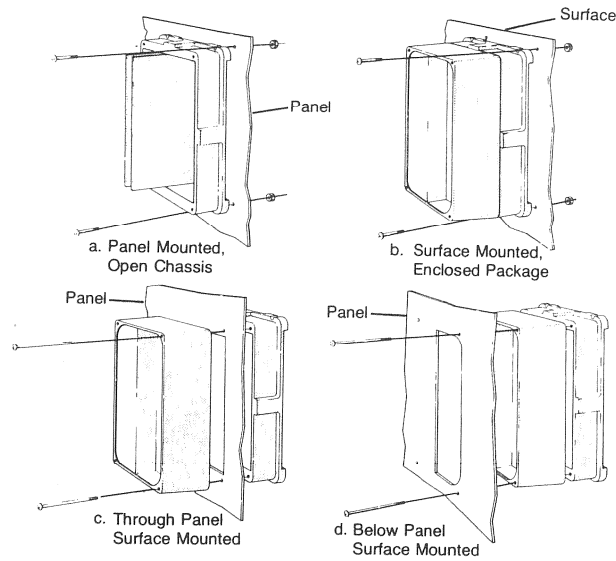

FIGURE 1. SMALL CONTROLLER MOUNTING CONFIGURATIONS
6. The small controller may be surface mounted or panel mounted as shown in Figure 1, page 7. The larger controller is designed for panel mounting. Mount the controller. Mounting dimensions are shown in Figure 2, page 7 - 8.